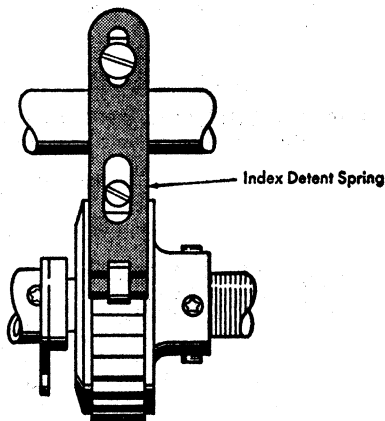

Figure 5. Detent Assembly
- a. Rotate the detent clamp on its shaft and lock it in place to maintain sufficient pressure to hold the platen in position (Figure 5).